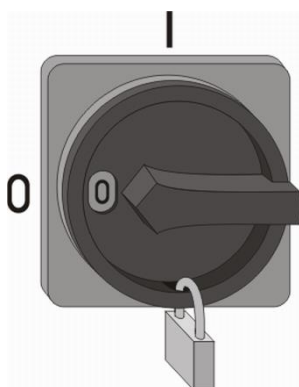

Fig. 3: Lock of main switch
- Secure the main switch with a lock (Fig. 3).